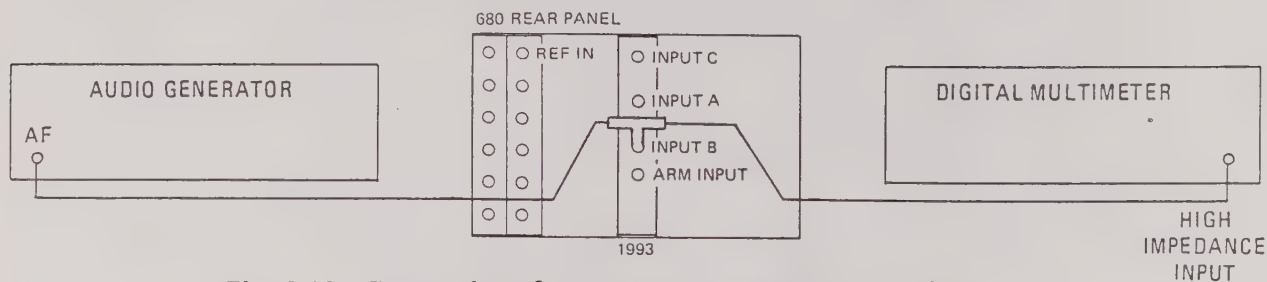

Fig. 6.10 Connections for Channel B Sensitivity PVP (II)
- (1) Connect the test equipment as shown in Fig. 6.10.